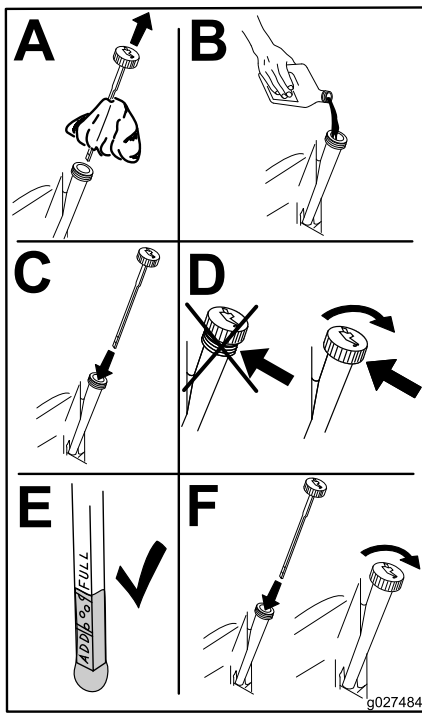

Figure 40
6. Slowly pour approximately 80% of the specified oil into the filler tube and slowly add the additional oil to bring it to the **Full** mark (Figure 40).